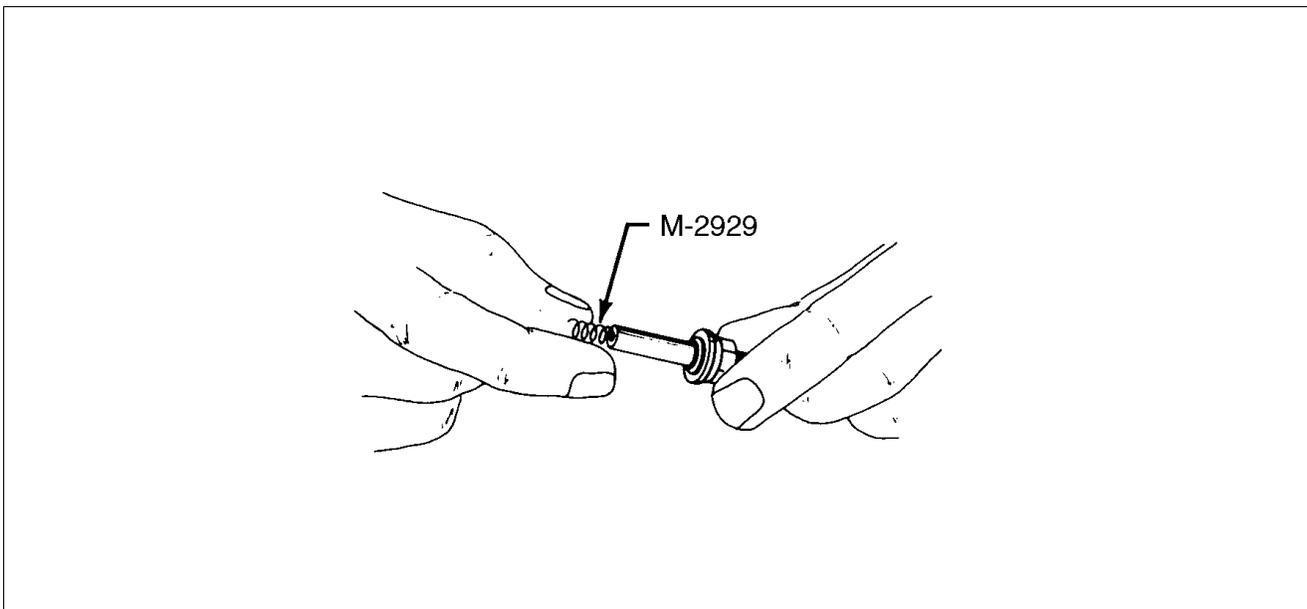

Figure 74-28. Installation of Spring
15. Turn M-2929 spring clockwise on electrode screw three full turns until end is flush with first large coil of spring. This applies to both ends of wire. (Refer to Figure 74-28.)